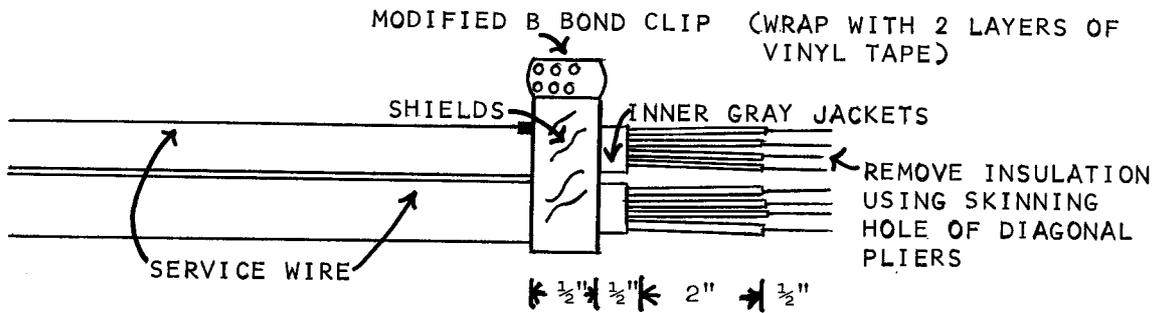

FIGURE 6
- 7.01 Holding both prepared ends of the B Service Wires together, with conductors facing in same direction (see Figure 6) place the two aluminum shields together and make two complete wraps around the inner jacket of both wires.
8.01 Using the skinning notch in the diagonal pliers, remove 1/2 inch of insulation from the ends of the conductors of both B service wires to be spliced. See Figure 6.